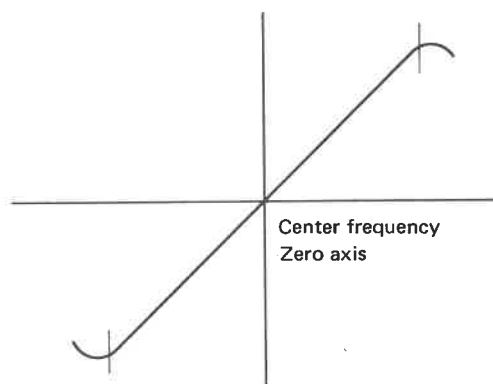

Fig. 6
- Adjust bottom core of T2 for maximum gain and linearity. Adjust top core so that center frequency mark is located on zero axis, as shown in Fig. 6.